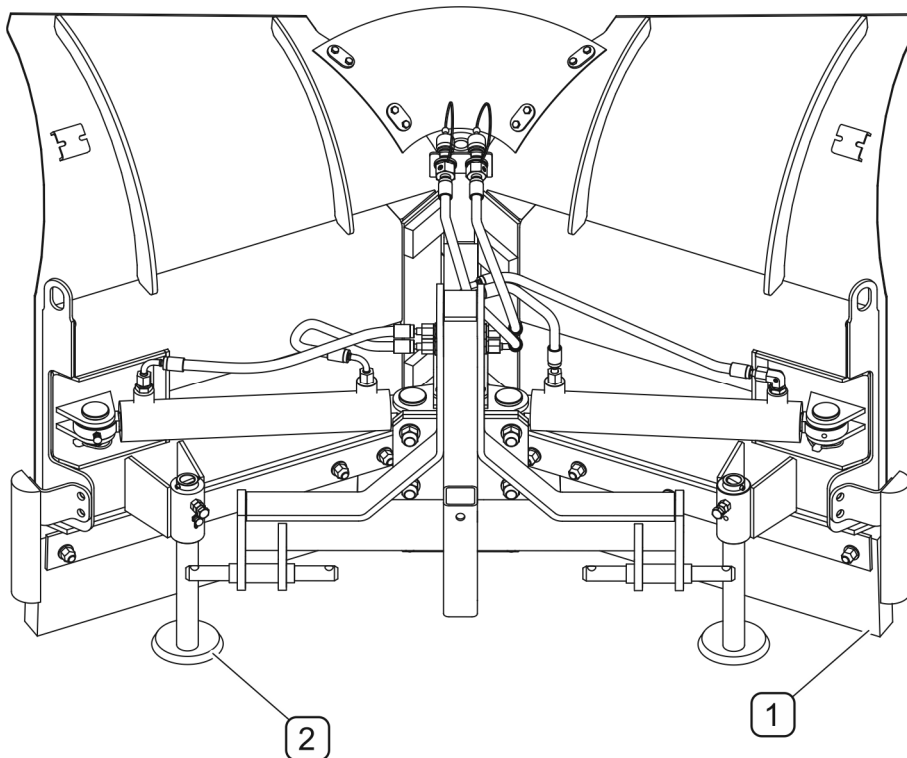

FIGURE 4.8 Snowplough position when disconnected from the carrying vehicle
- position the snowplough in "arrow" position so that blades are folded to the rear (FIGURE 4.8),